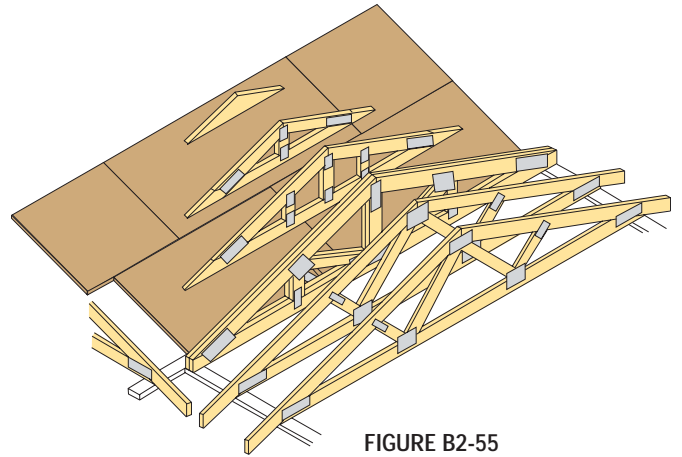
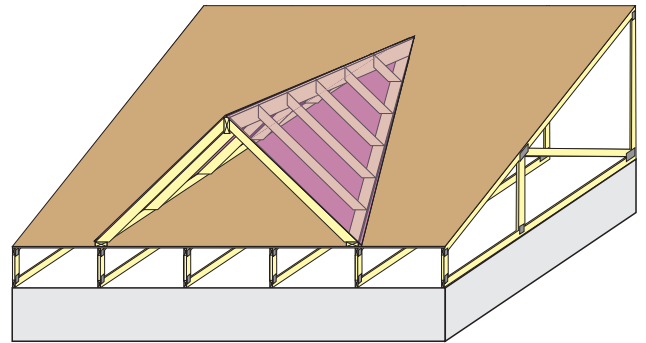

FIGURE B2-55
FIGURE B2-56
**NOTE:** The method used to frame a valley will affect how the loads from the upper roof are distributed to the supporting trusses, which can have an effect on their design. Valley set truss frames (Figure B2-55) distribute the upper roof load uniformly to the lower roof. Conventional rafter framing (Figure B2-56) distributes the upper roof load to the lower roof as a concentrated line load acting along the valley created by the intersection between the upper and lower roof.